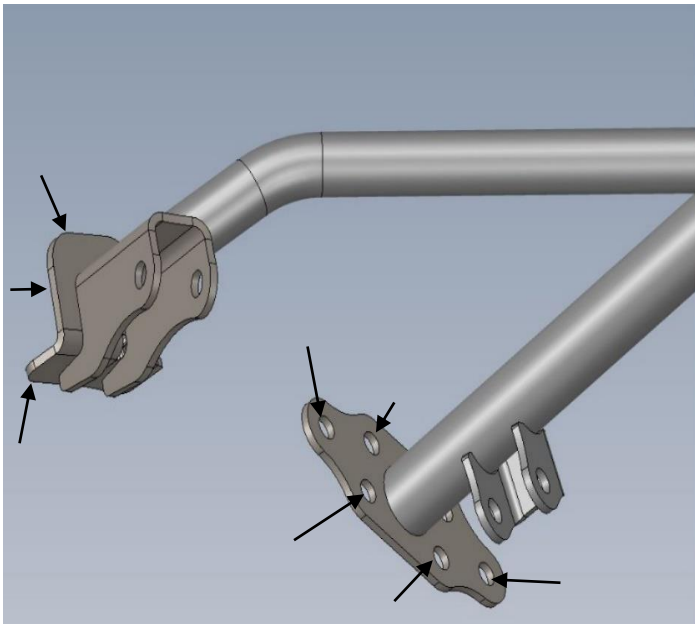

Figure 15
7. Using a welder capable of 1/4" penetration, plug weld all holes in the front flanges and the flange edges of the rear flanges. **(Figure 15 & 16)** Alternate sides during welding to prevent overheating/warping of the flanges or frame rails. **Using compressed air to cool each weld and eliminate the chance of inner frame rail fires is highly recommended.**